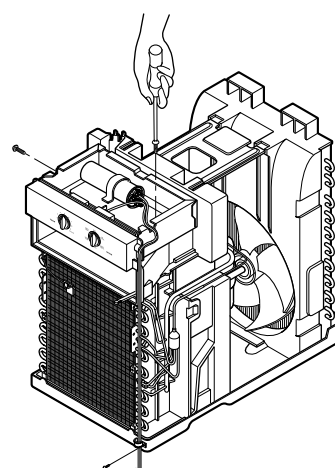

Figure 3
3. Remove the 1 screw which fasten the power cord. (See Figure 3)
5. Remove the 2 screws which fasten the control box.(See Figure 3)